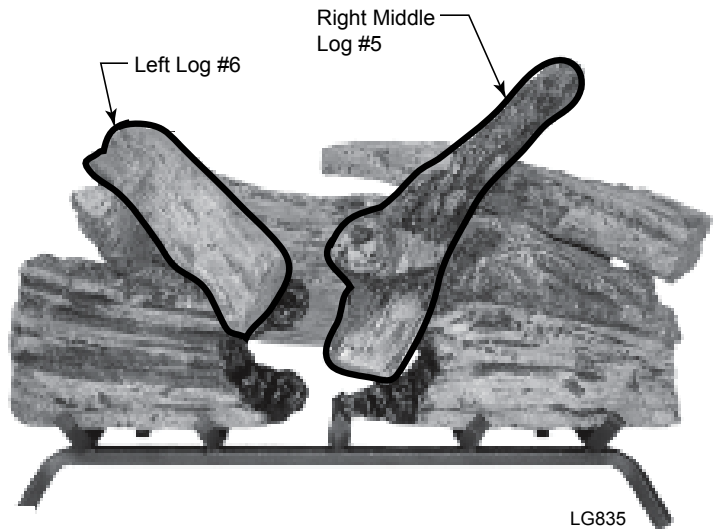

**Figure 84 -
- Rest front end of right log #4 on right top of log #1b. The back end of log #4 rests to right hump on log #3. *Figure 84*